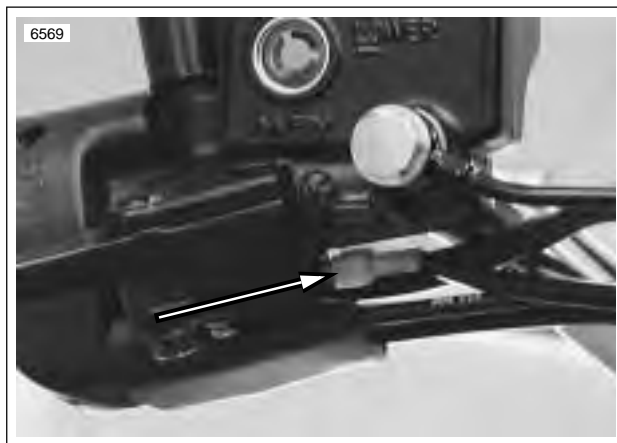

Figure 2-35. Brake Lamp Switch Connectors
- See Figure 2-35. Verify brake lamp switches are secure. Attach wires to switches.